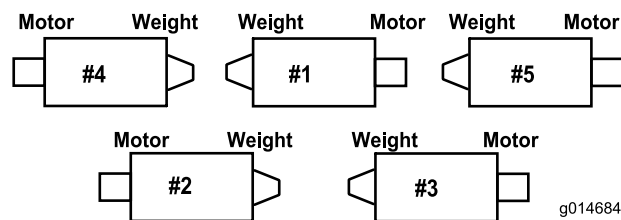
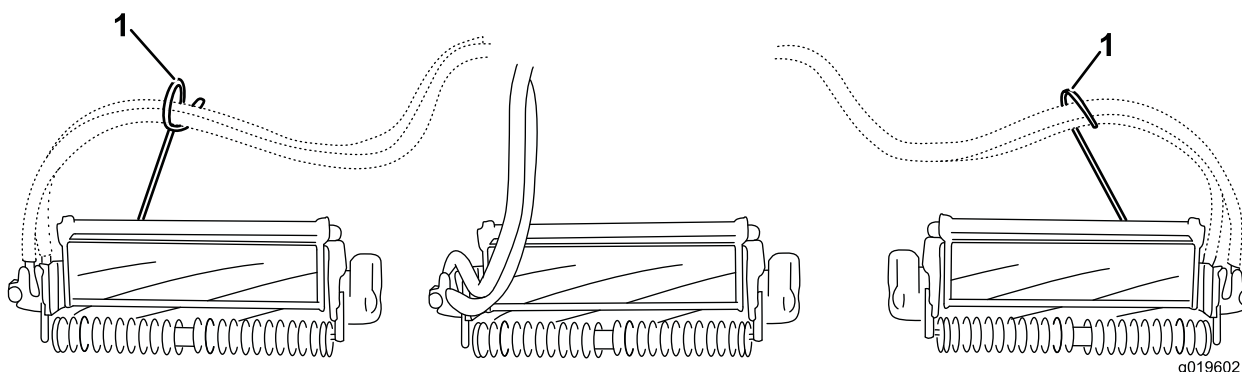
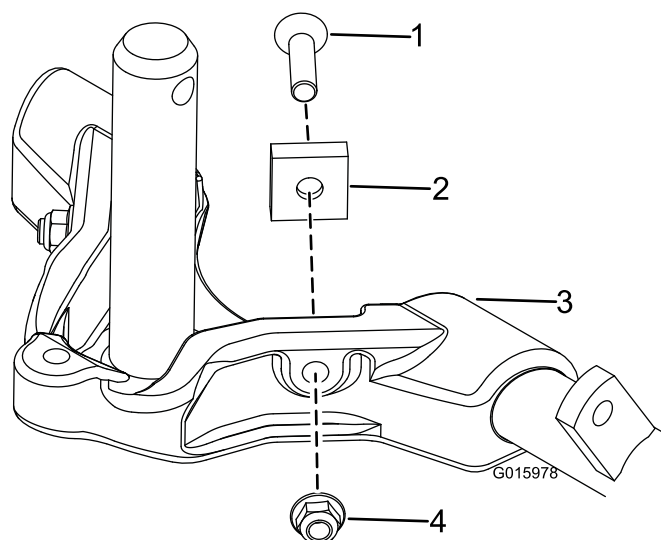

Figure 7
Figure 9
Figure 10
Important: On the #4 (left front) and #5 (right front) cutting units, use the rod bracket mounting nuts to install the hose guides to the front of the cutting unit tabs. The hose guides should lean toward the center cutting unit (Figure 7 through Figure 9).
6. On 27 inch cutting units only, increase the steering on the rear cutting units by removing the (2) pivot spacers, hex socket screws and flange lock nuts (Figure 10) from the rear (#2 and #3) cutting unit carrier frames (Figure 7).